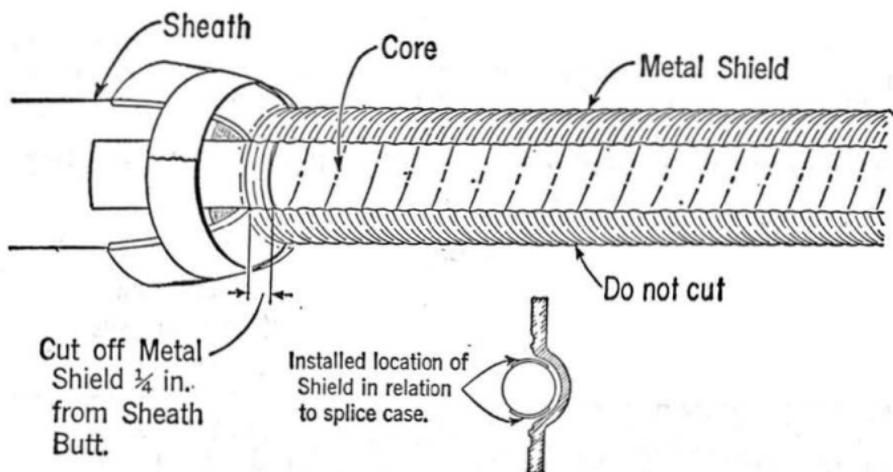

Fig. 4
2.05 Remove metal shield as described in note following Fig. 4, except for two strips each 3/4-inch minimum width and no more than 1 inch wide. Allow the greatest practicable separation between the two strips. Avoid injuring the core wrap.
Note: The metal shield can be readily peeled back by making a short longitudinal cut one inch from the exposed outer edge and about one inch long, then grasping the narrow strip and peeling it back about 6 inches at each pull to the sheath butt. The entire metal shield can be peeled back to the sheath butt in 3/4-inch wide strips, using this method. None of the strips should be cut off at the sheath butt until the entire metal jacket has been peeled back. Then, two strips, which will be approximately in line with the sides of the splice cases when they are installed, shall be left and the remainder trimmed as illustrated in Fig. 4. The metal strips can also be cut with scissors.